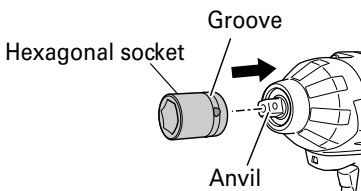

Fig. 6
2. Installing a socket (Fig. 6, 7-1)
3. Retaining ring type (Fig. 6, 7-2)